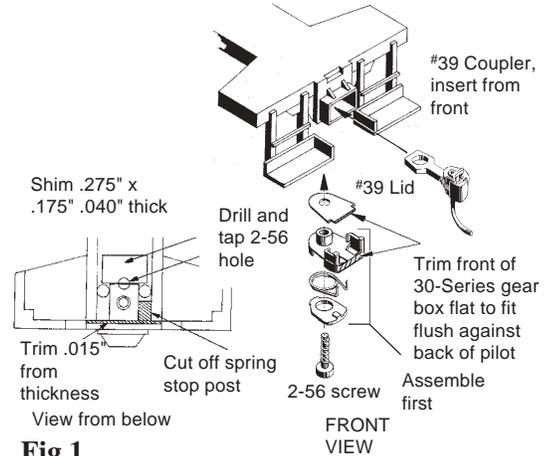

Fig.1
2. Cut off coupler spring stop (behind the coupler pocket). Carefully trim .015" from the back of the coupler pocket. Make sure back surface is smooth and even all the way across and down to the platform. See Fig.1.
3. Make a .275" x .175" x .040" thick shim. Place shim between loco frame rails and against the mounting platform. Cement in place with a solvent cement for plastics. See Fig.1.